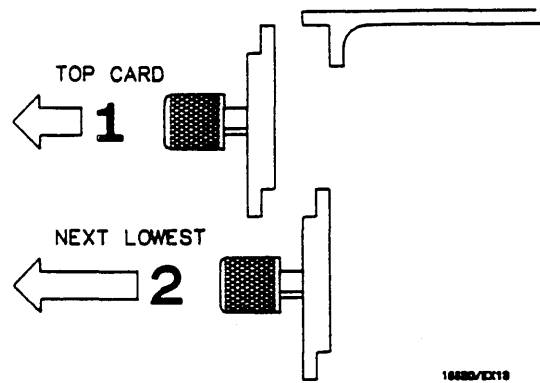

Figure 2-2. Endplate Overlap
- c. Starting from the top, begin pulling card(s) and filler panel(s) out half way. See figure 2-2.